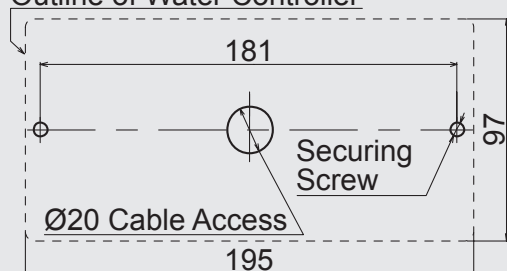
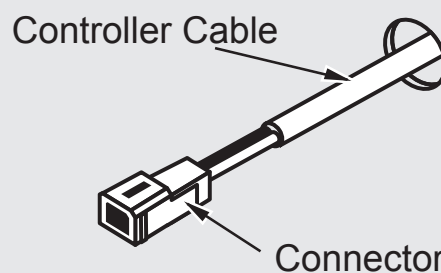

Fig.1
Fig.2
2. Drill three holes as shown (Fig.1 and Fig.2) for the securing screws and one to provide cable access.
3. When running cable through the access hole ensure the connector end of the cable is located nearest to the controller (Fig.2).
2. Mark and drill three holes, locating the cable access hole as shown (Fig.1).
3. When running a cable through the access hole ensure the connector end of the cable is located nearest to the controller (Fig.2).